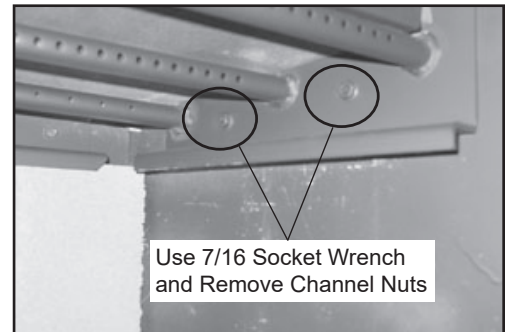

Figure 24.3
3. Locate the 2 channel nuts and two bolts inside of chamber and remove using a 7/16 socket wrench for the nuts and a 3/8 socket wrench for the bolts (**Figure 24.3**).